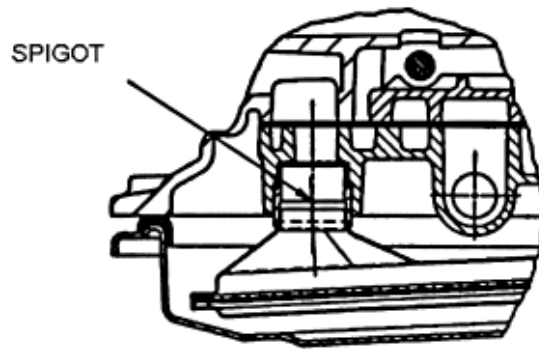

Figure 8.59 Bushing of engine oil filter
- b. Install the oil filter on the valve carefully. During the installation, the socket must be inclined. Refer to Figure 8.59.